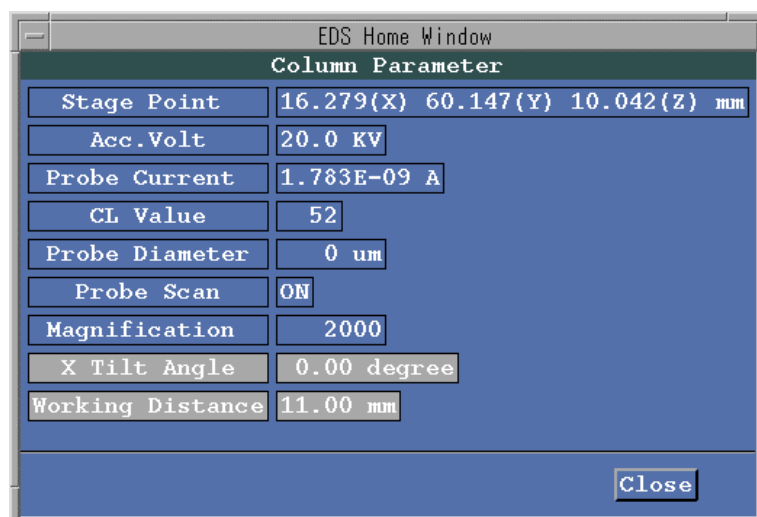

Fig. 12 Column Parameter window
- ◆ Click on the **Column** button. The **Column Parameter** window opens. The information on the EPMA basic unit, such as the accelerating voltage and probe current, as well as the information on the stage, is displayed, as shown in Fig. 12.